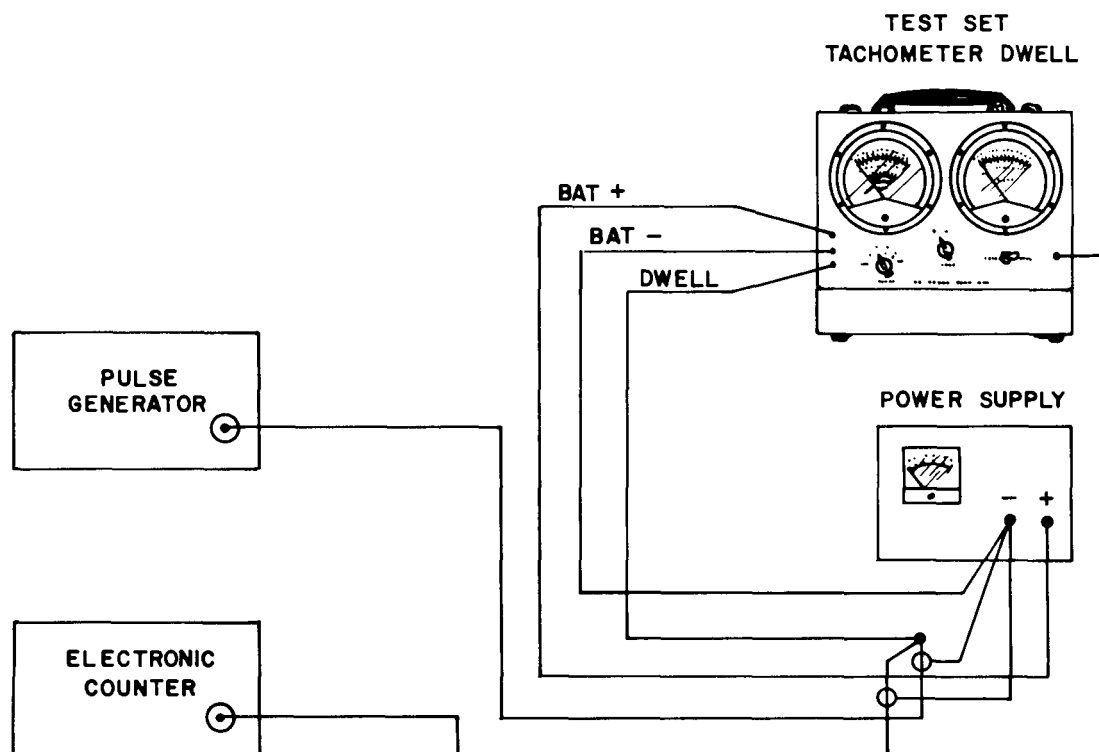

FIG. 4-1. DWELL METER TEST SETUP
1. Set up equipment as in figure 4-1. Set to test set on 8 lobe position.	to an engine RPM of 1500 and a dwell of 22.5°. The meter under best should read between 20.7° and 24.3 .
4. Set up equipment as in figure 4-1. Leave unit under test set on 8 lobe position.